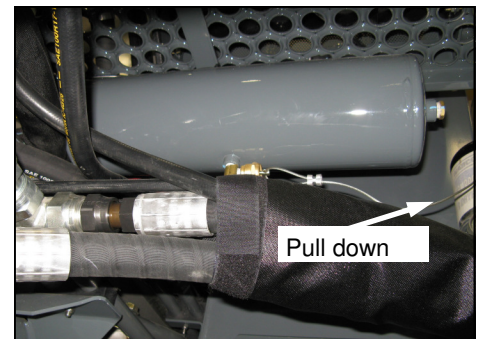

FIG 101-4
**AIR TANK**– Drain the air tank (fig. 101-4) daily by slowly releasing the drain cock. Check for moisture in the system. If